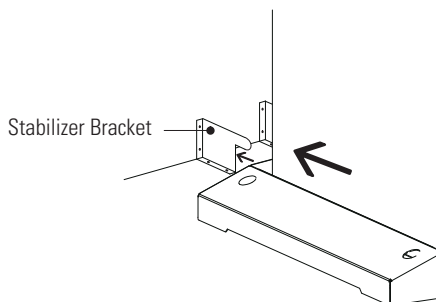

Figure 8. Stabilizer Bracket Installation
Each bracket has holes that enable it to be attached by screws to either the wall or the floor (or both) behind the intended cabinet installation (see Figure 8). The stabilizer brackets are not attached to the cabinet base itself.
2. Using the proper type of customer-supplied screws for the intended mounting surface, attach each bracket as shown in Figure 8. All screws must be driven into structural material such as wall studs.